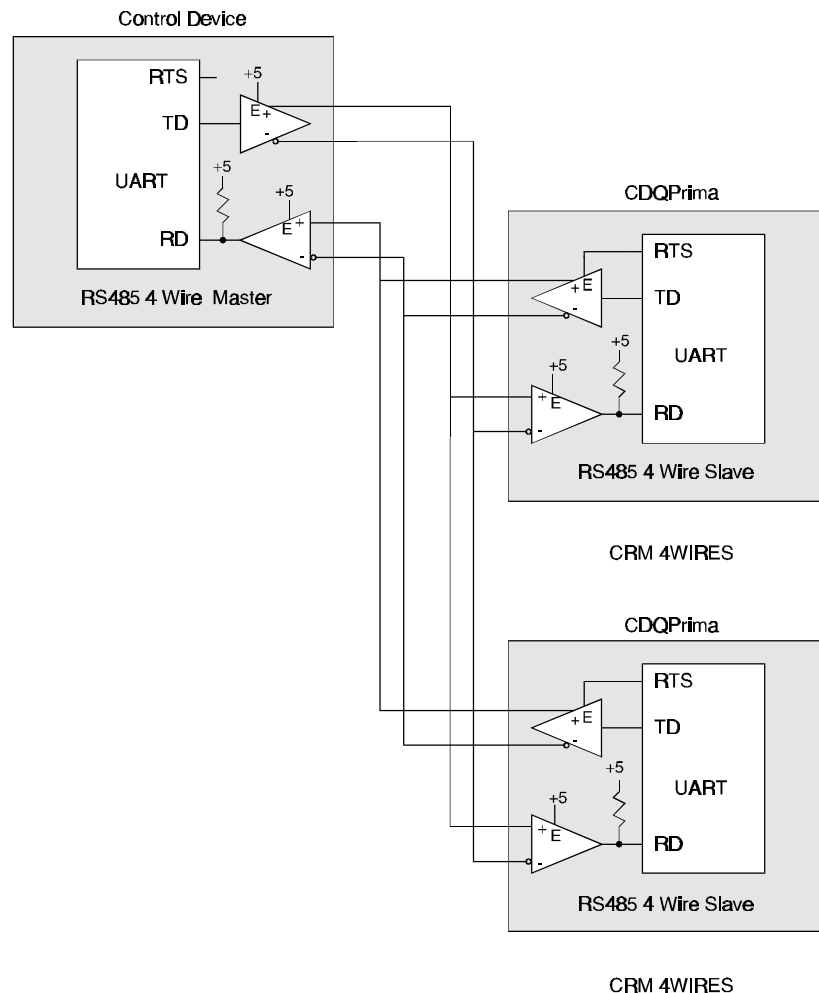

Figure 5-3 RS485 four wire master to four wire slaves
A four wire master device may be connected to a number of four wire slave devices, As shown in Fig. 5-3. In this case, the four wire slaves are always listening to the data transmitted by the four wire master controller. The transmitter (TD) of each slave is disconnected from the bus in normal operation and is enabled only when the four wire slave has received a message to which it must respond. To respond, the slave must raise the RTS line high, transmit the response and then lower the RTS line. This master-to-slave communication assumes that each message from the master is tagged with an ID field so that only the proper slave may respond. This configuration is therefore an *Addressed* communications bus. If two slaves respond at the same time, the message received by the master would be garbled.